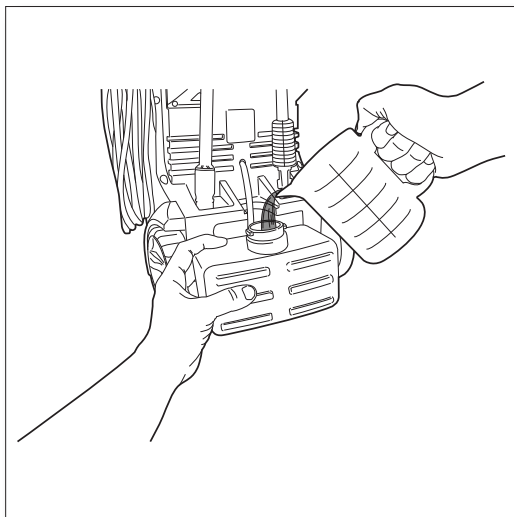
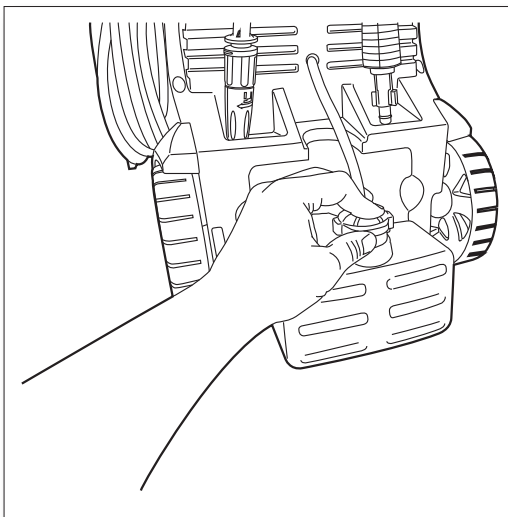

Fig. 12
Fig. 13
- When using the detergent, fill it with a properly formulated detergent or cleaner with water ratio according to instructions on the container (**Fig. 12**). The detergent tank comes with a straw which is fitted into the screw-on top. If you don't see the straw, look inside the tank and attach it to the screw-on top (**Fig. 13**).